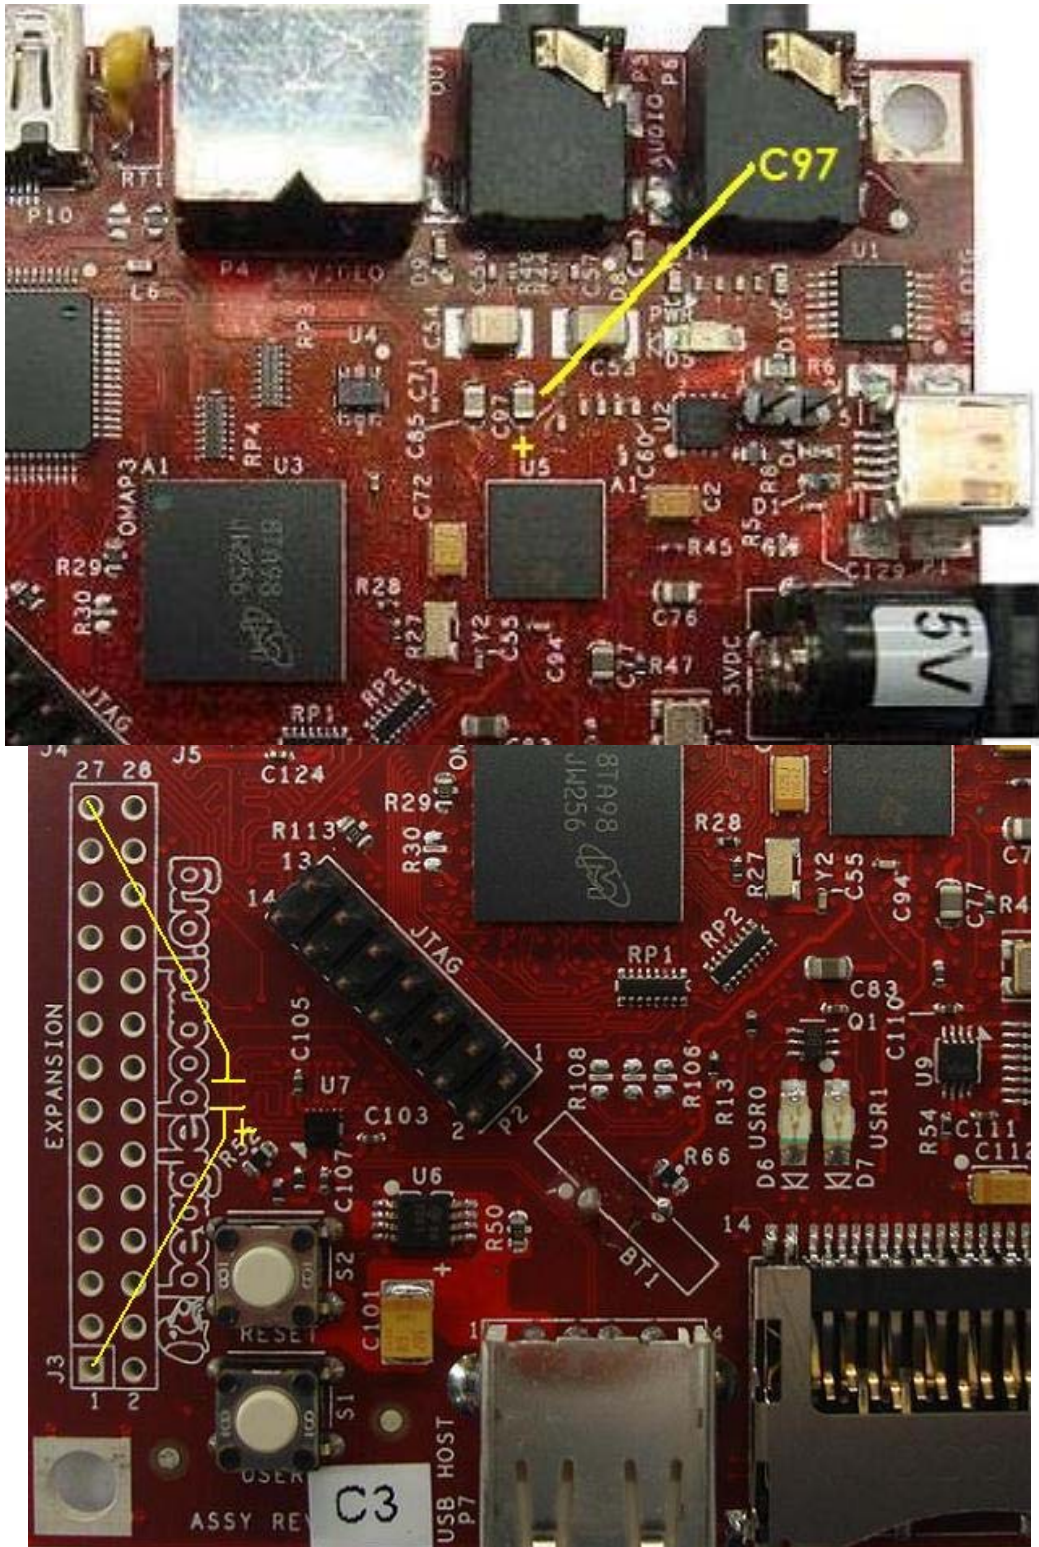
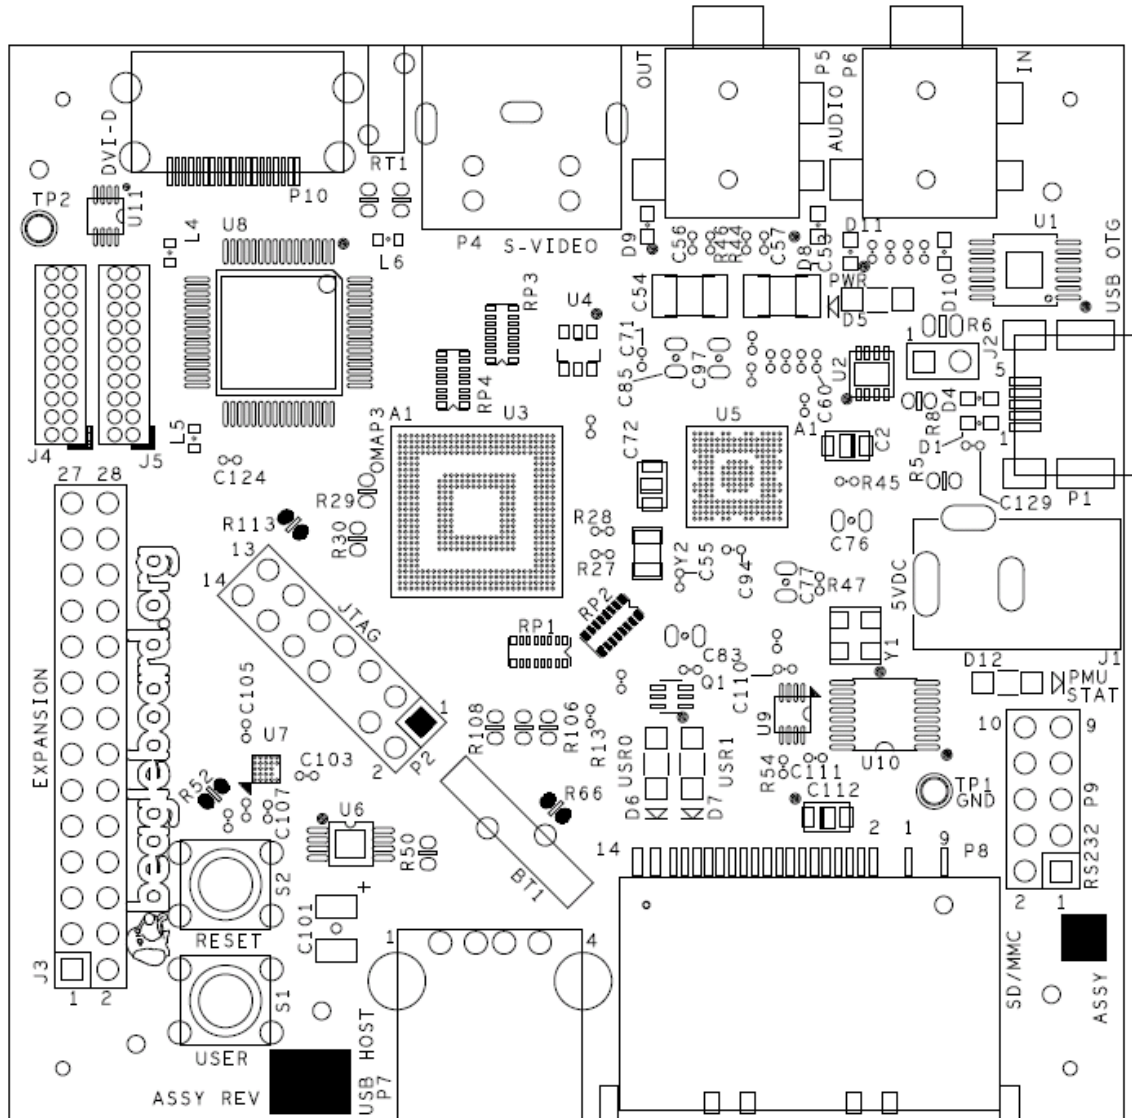
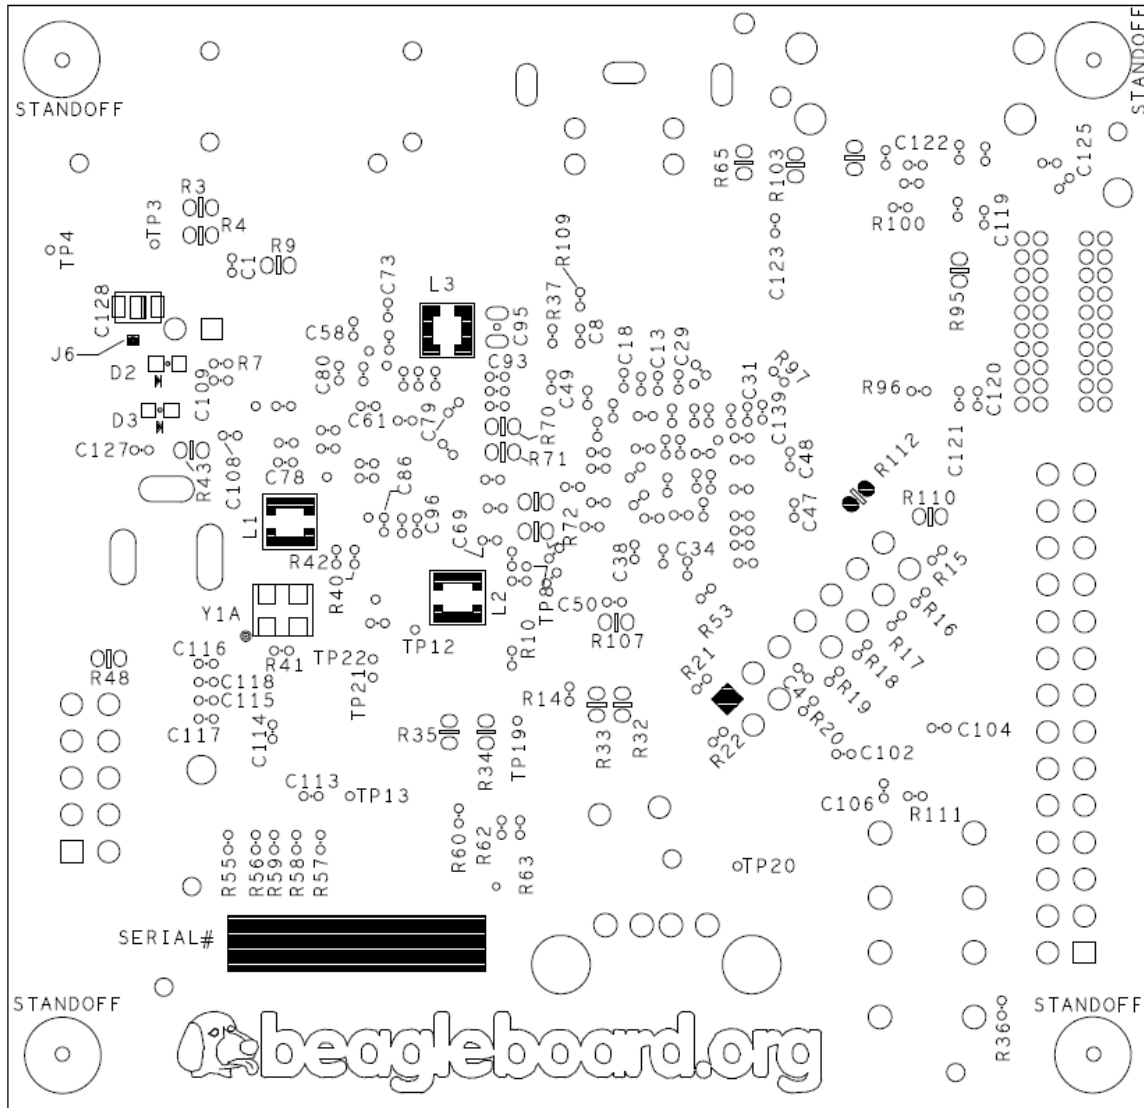

Figure 84. USB Host Modifications
Figure 85. BeagleBoard Top Side Components
Figure 86. BeagleBoard Bottom Side Components
3. You must have a Null Modem cable to connect to a PC. This results in the TX and RX leads being swapped, connecting the TX of the BeagleBoard to RX of the PC and RX of the BeagleBoard to TX of the PC. This cable also must be a female to female cable as the connectors on the BeagleBoard and PC are male. **Figure 84** shows the DB9 male connector and **Figure 85** shows the Null Modem Cable.
1. Connect a wire across the TX and RX leads (Pins 2 and Pins 3) of the cable that plugs into the BeagleBoard (IDC Cable). **Figure 86** shows how this is done.
Figure 84 shows the location and polarity of C97 and the locations of the pins on the expansion connectr..
Figures 85 and Figure 86 contain the bottom and top side component locations of the BeagleBoard.